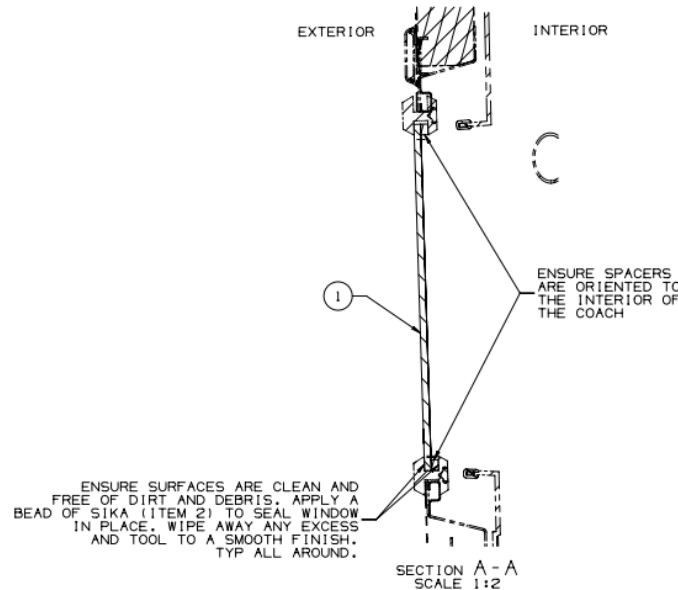

Figure 4: Spacer Placement is Oriented to the Interior of the Coach
- 15) Apply spacer **P/N 957761** on top and bottom of door flange as shown in **Figure 4**. Press spacers firmly for the proper adhesion of the spacers to the door flange and cut the spacer length as required.